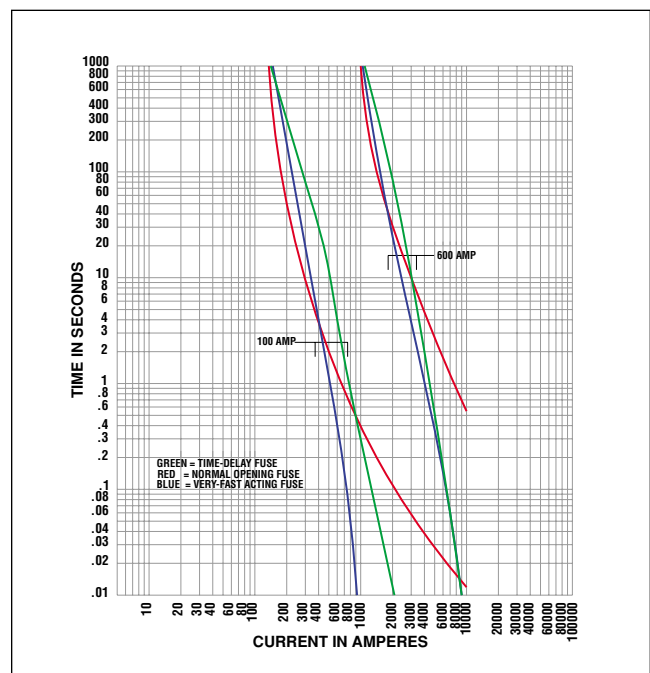

Figure 12
**Figure 12** compares the average melting times for 100 and 600 amp ratings of three fuse types: Littelfuse